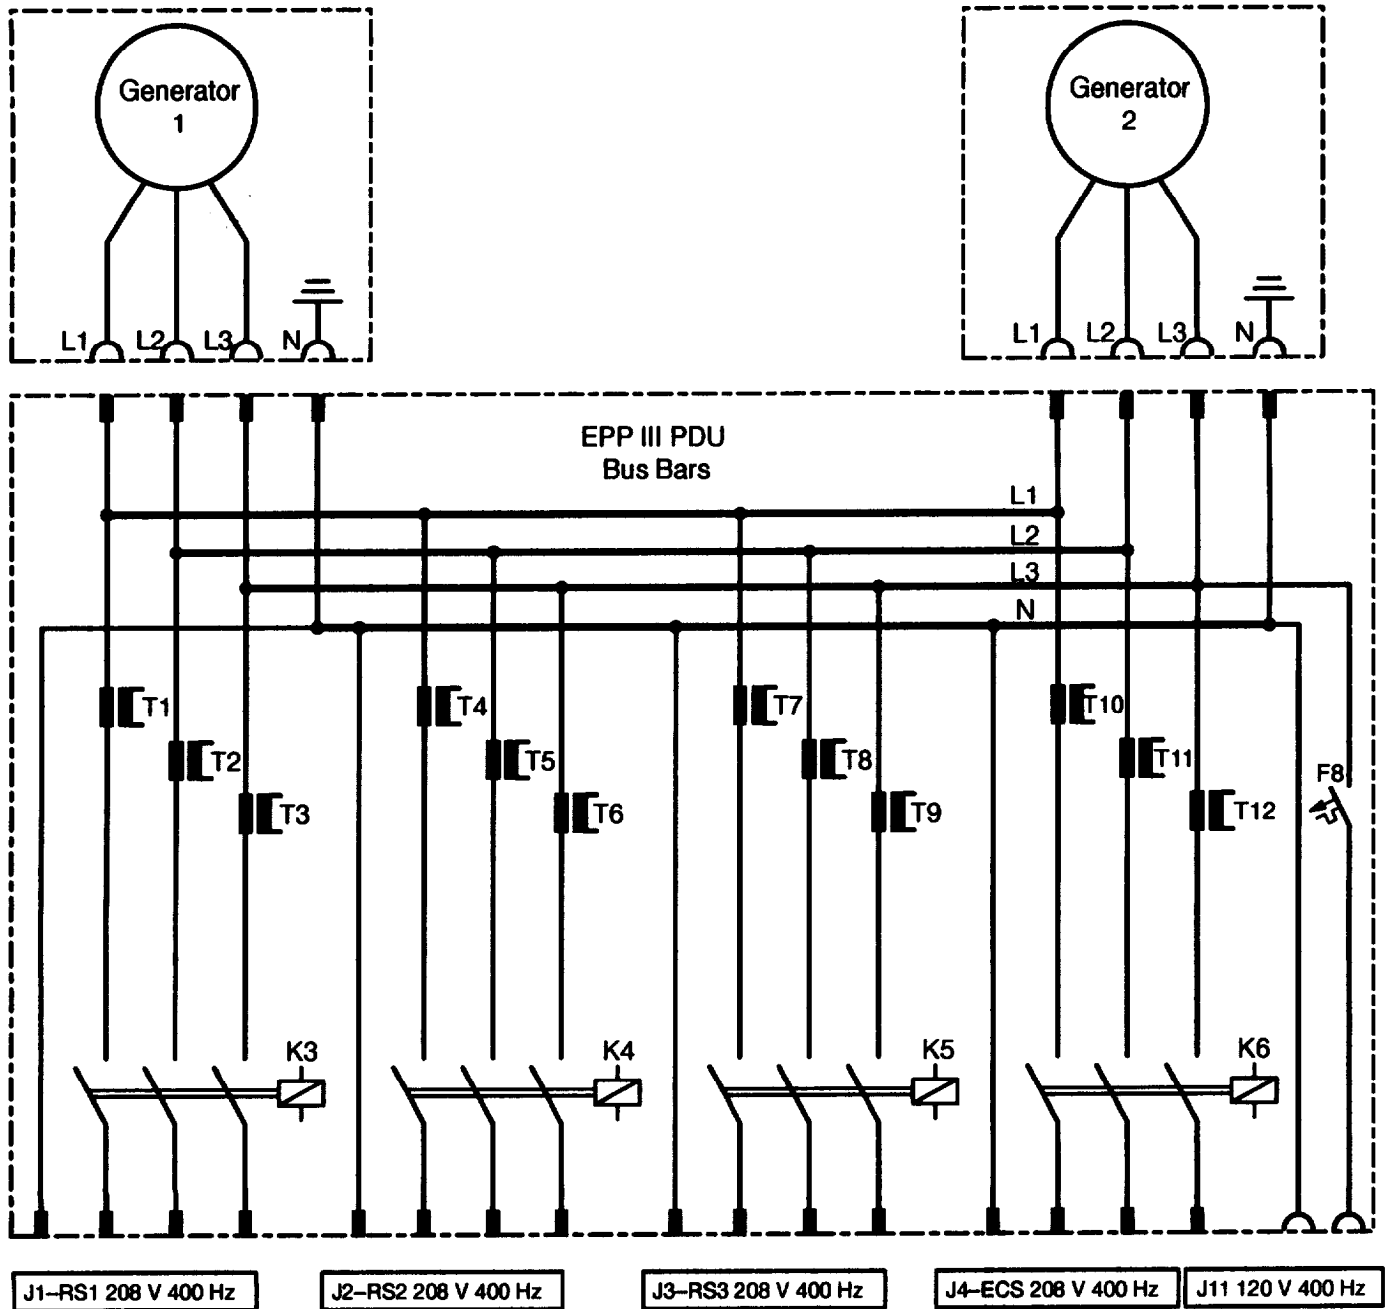
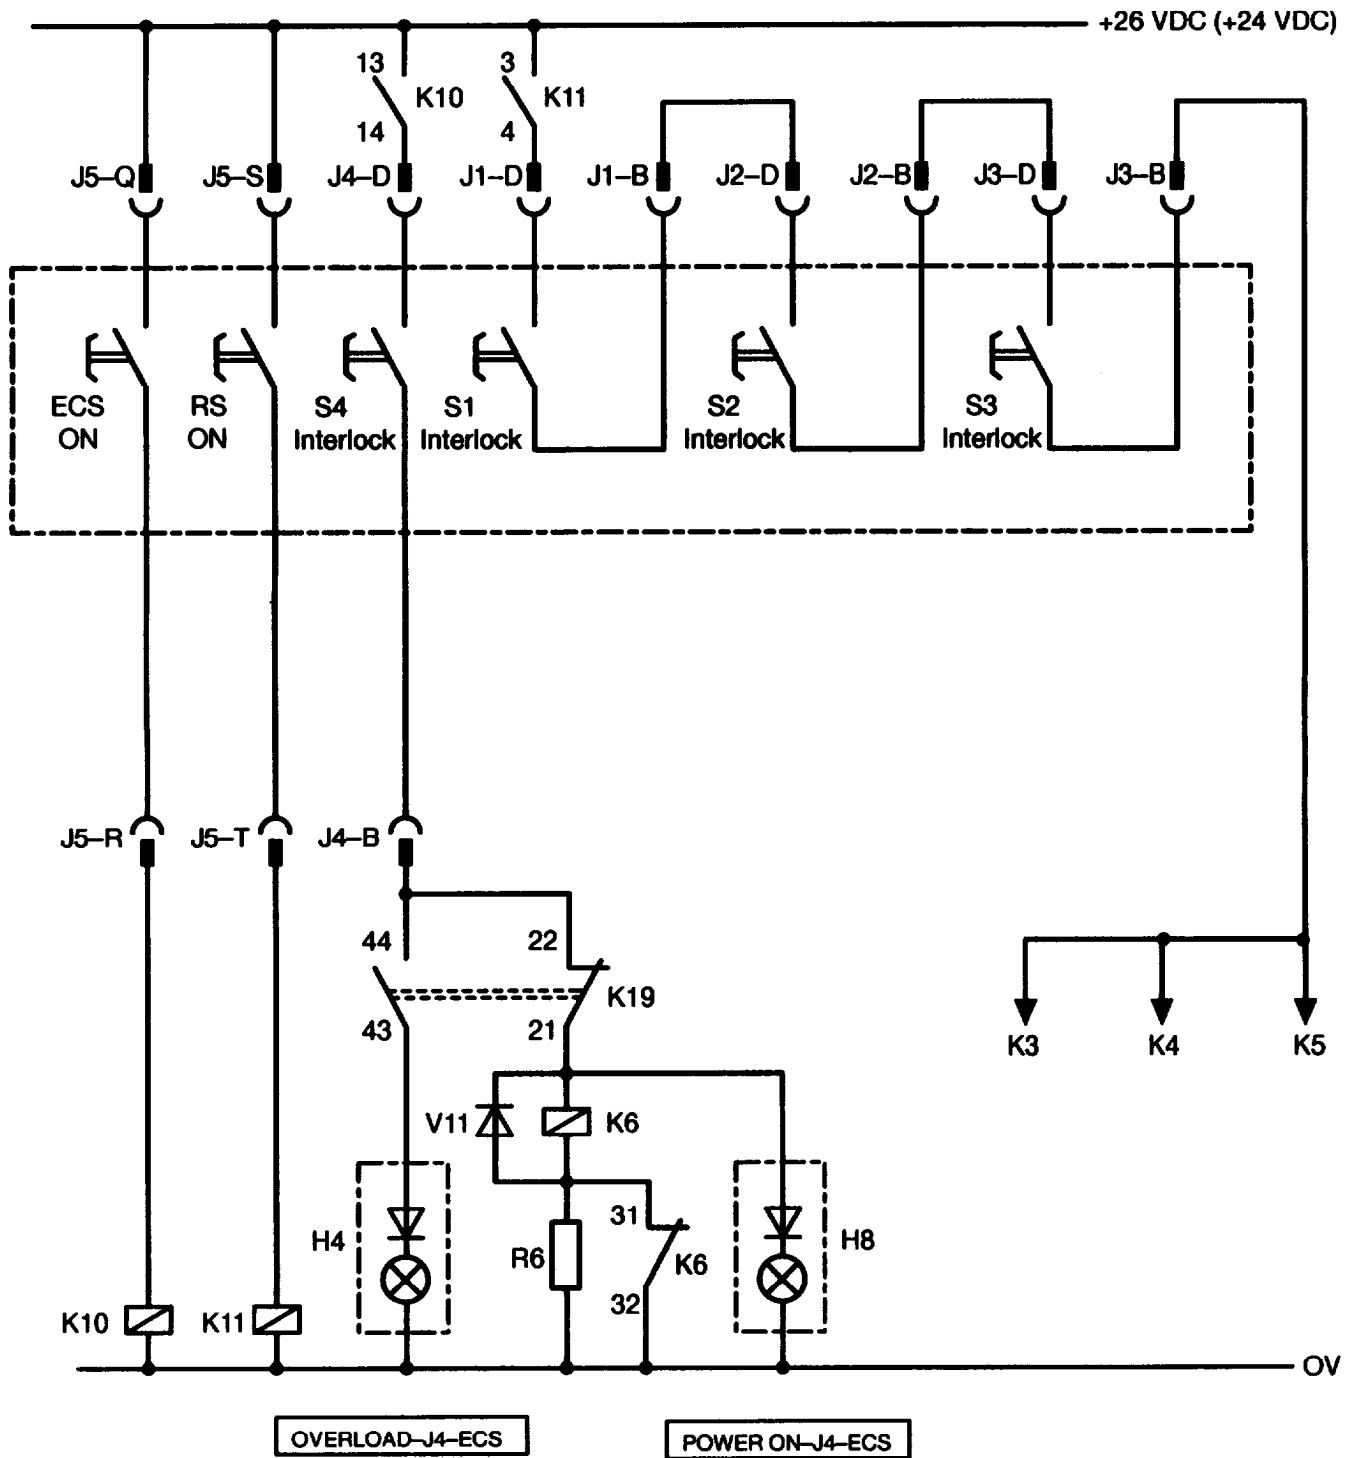
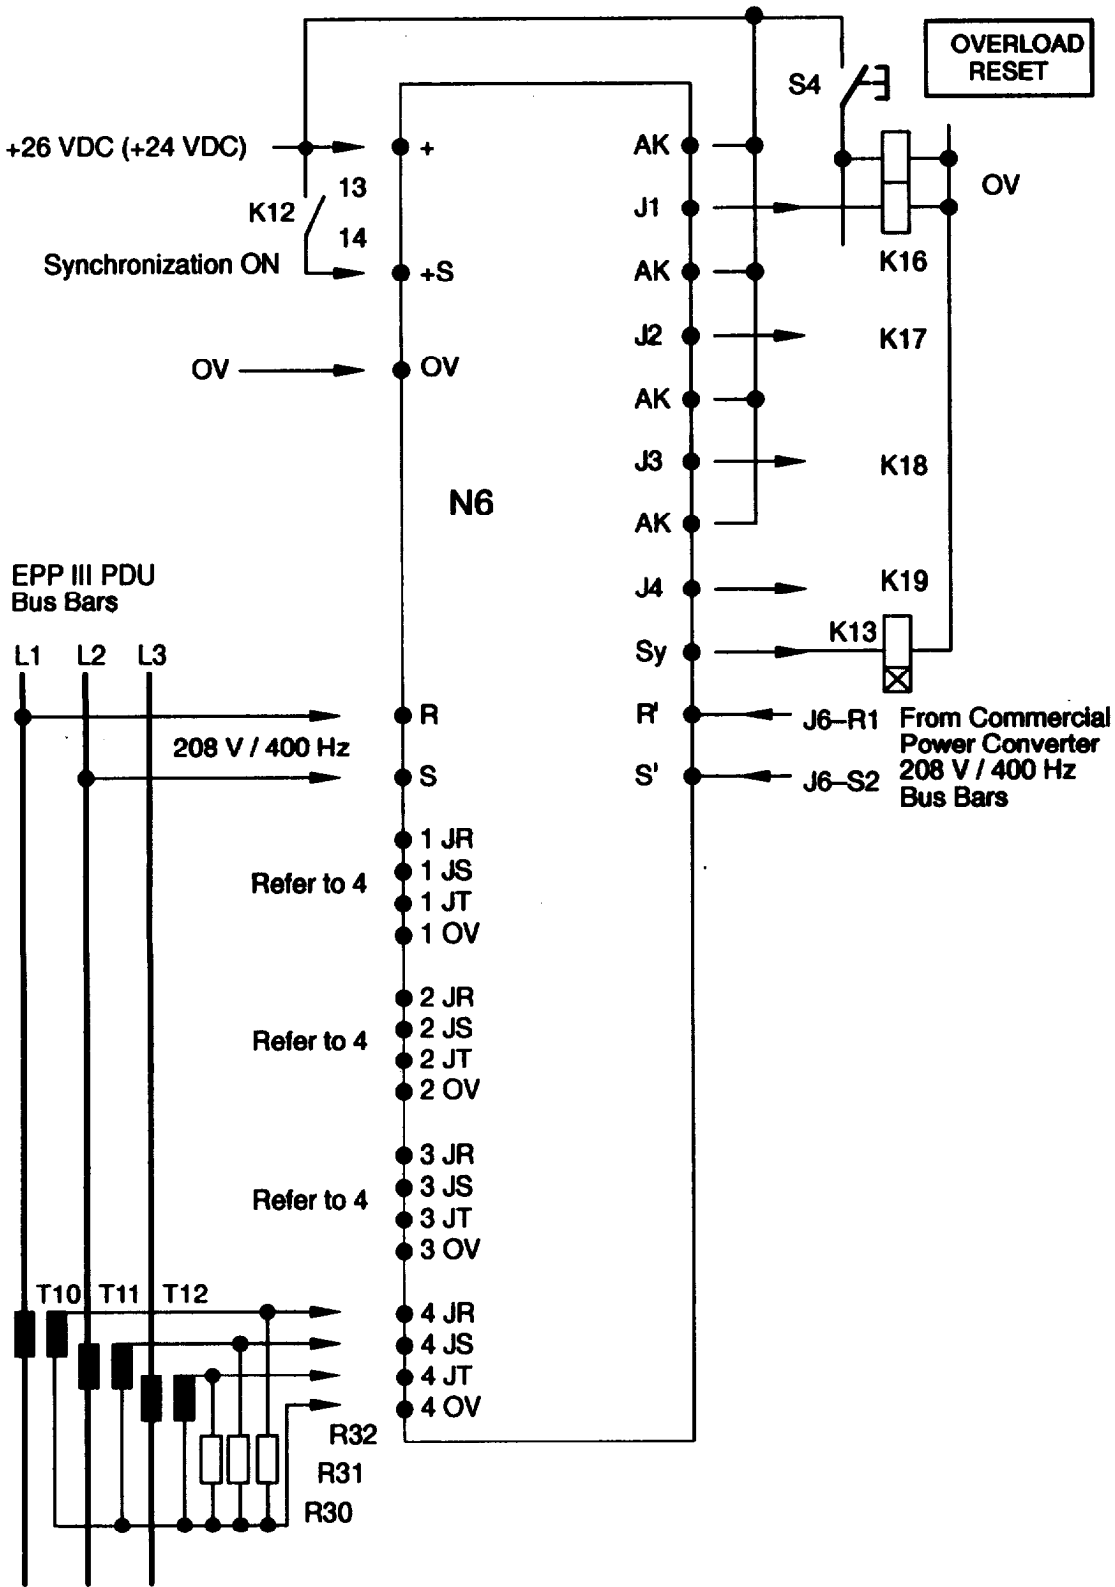
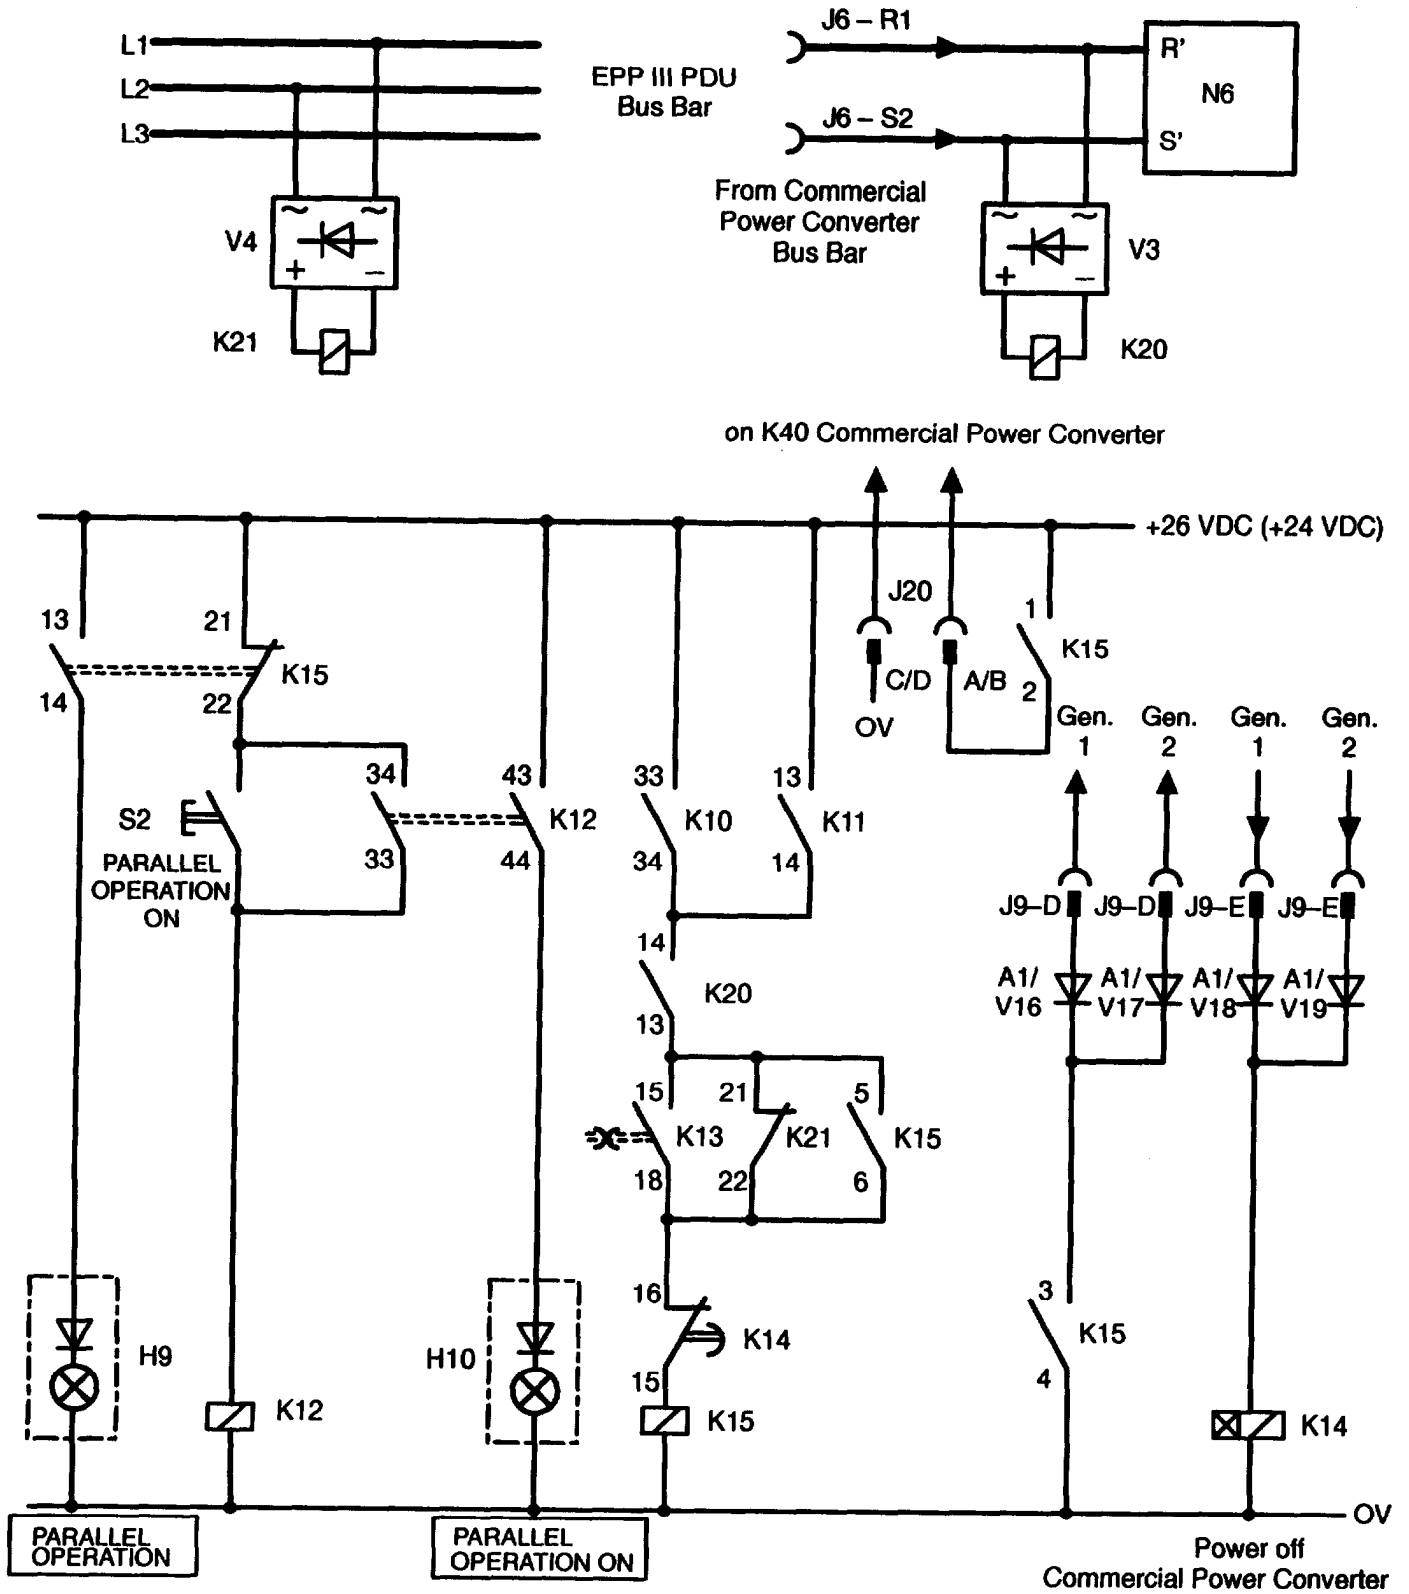

Figure 1-7 Main power circuits 208/120 V, 400 Hz.
Figure 1-8 Main power circuit control systems.
Figure 1-9 PDU electronics group N6 monitoring circuits
Figure 1-10 Controlling operation with the commercial power converter.
Generators 1 and 2 (figure 1-7) provide three-phase 208V/400Hz power to the four bus bars L1, L2, L3, and N in the EPP III power distribution unit. From the bus bars, all phase lines are directed to power contactors K3 to K6 by pass through current transformers T1 to T12. The pass through current transformers transform the phase currents in the ratio 150:1. The resulting analog voltages are delivered to the monitoring circuits of the PDU (paragraph 1.14.2). A 120V/400Hz power supply is made available at receptacle J11.
The main power circuits are switched on with the ECS ON (figure 1-8) and/or RS ON switches on the ECS control panel; this energizes relay K10 and/or K11. Contact K13/14 of K10 enables the main power circuit for power contactor K6, and contact 3/4 of K11 enables the main power circuit of power contactors K3 to K5. The power circuits are identical, and will be described below using the example of K6.
If current transformer T10, T11, or T12 (figure 1-7) indicates an overload, PDU electronics group N6 sets time pulse relay K19 (figure 1-9). Break contact 22/21 of K19 (figure 1-8) opens, and the main power circuit is shut down as power contactor K6 de energizes.
Once the fault is remedied, OVERLOAD RESET pushbutton switch S4 (figure 1-9) on the control panel must be pressed to reset relay K19 and turn the main power circuit back on. If an overload cutout occurs, OVERLOAD-J4-ECS lamp H4 (figure 1-8) on the PDU control panel lights up.
The PDU electronics group N6 (figure 1-9) performs two functions:
If an overload at any of current transformers T10, T11, or T12 causes the voltage at input 4JR, 4JS, or 4JT to exceed its limit value, time relay K19 at output J4 is set, and cuts out contactor K6 in the main power circuit (figure 1-8). The contactor is not switched back on until relay K19 is reset by pressing the OVERLOAD RESET pushbutton switch S4 on the control panel (figure 1-9).
Pressing PARALLEL OPERATION ON pushbutton switch S2 (figure 1-10), on the control panel energizes relay K12 (figure 1-9), and initiates synchronization testing. +24 VDC voltage is delivered to PDU electronics group N6 input +S, activating synchronization.
1. Relay K21 (figure 1-10) is energized, because EPP III is providing power to the loads. This relay detects the presence of phase voltages on the EPP III bus bars.